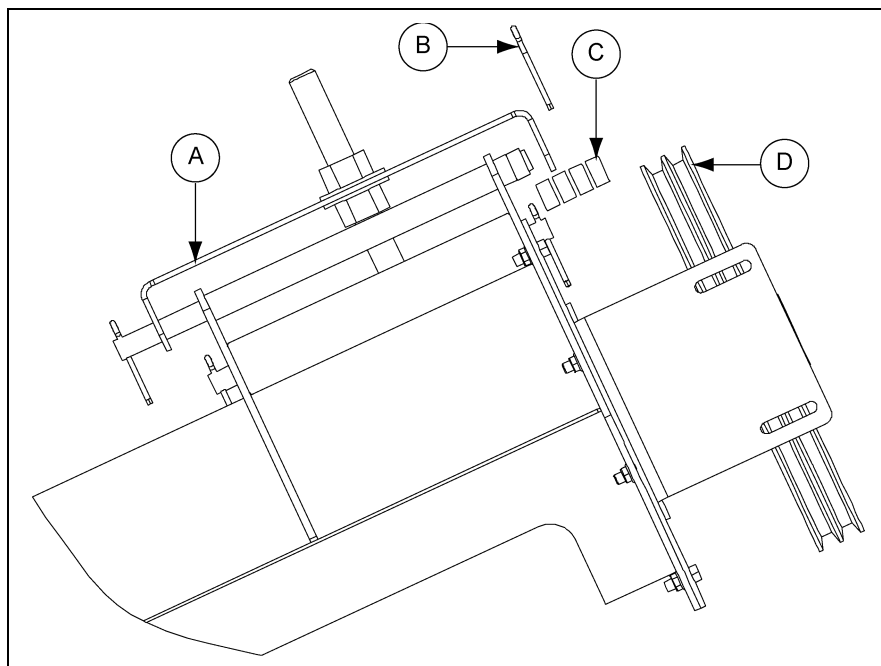

Figure 4T
1. Attach the motor to the motor mount plate (A) using appropriate bolts, lock washers, and hex nuts.
2. Install pulley (D) onto motor shaft making sure that it is aligned with the flight pulley (D). It may be necessary to move spacers (C) to gain shaft alignment. (See Figure 4T.)